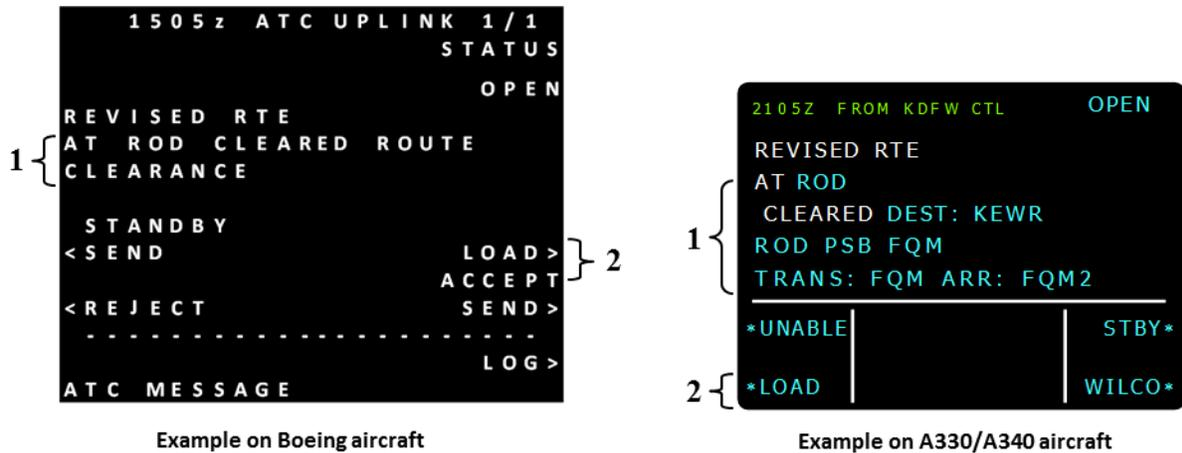

Figure 19. Depiction of a Route Modification downstream of the DP Transition Fix to Destination
1. As shown in Figure 19, the controller has received an amendment to the previously cleared route of flight at waypoint “ROD”. The loadable FMS clearance will start at “ROD” and will include the amended route with an arrival procedure (if applicable) to the destination.